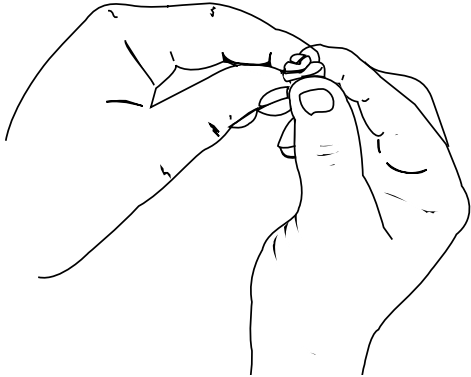

Fig. 20
- Squeeze the filter to spread the oil (Fig. 20).